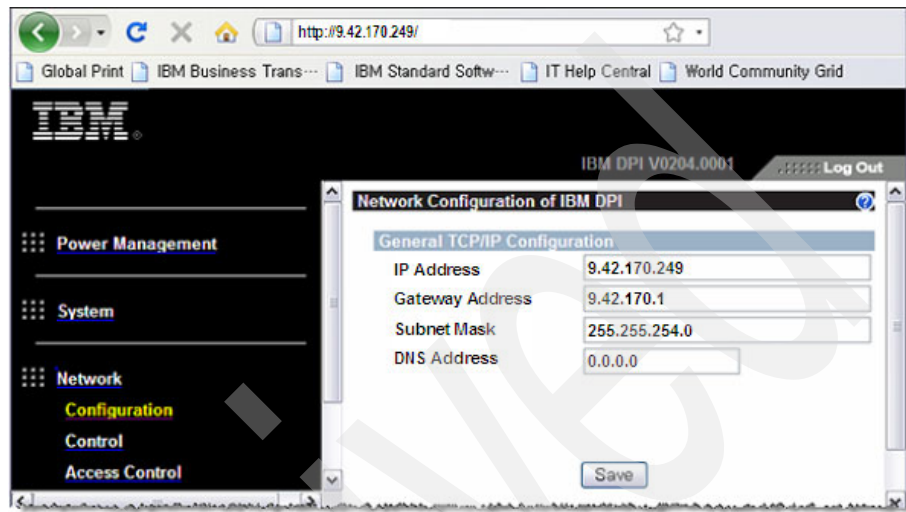

Figure 8-12 Network Configuration panel on the Web interface
7. When the IP configuration is complete, you can use the PDU+ Web interface to change network settings as well as other information. Open a browser, and then use `http://ip_address` to start the Web interface to the PDU+ as shown in Figure 8-12.